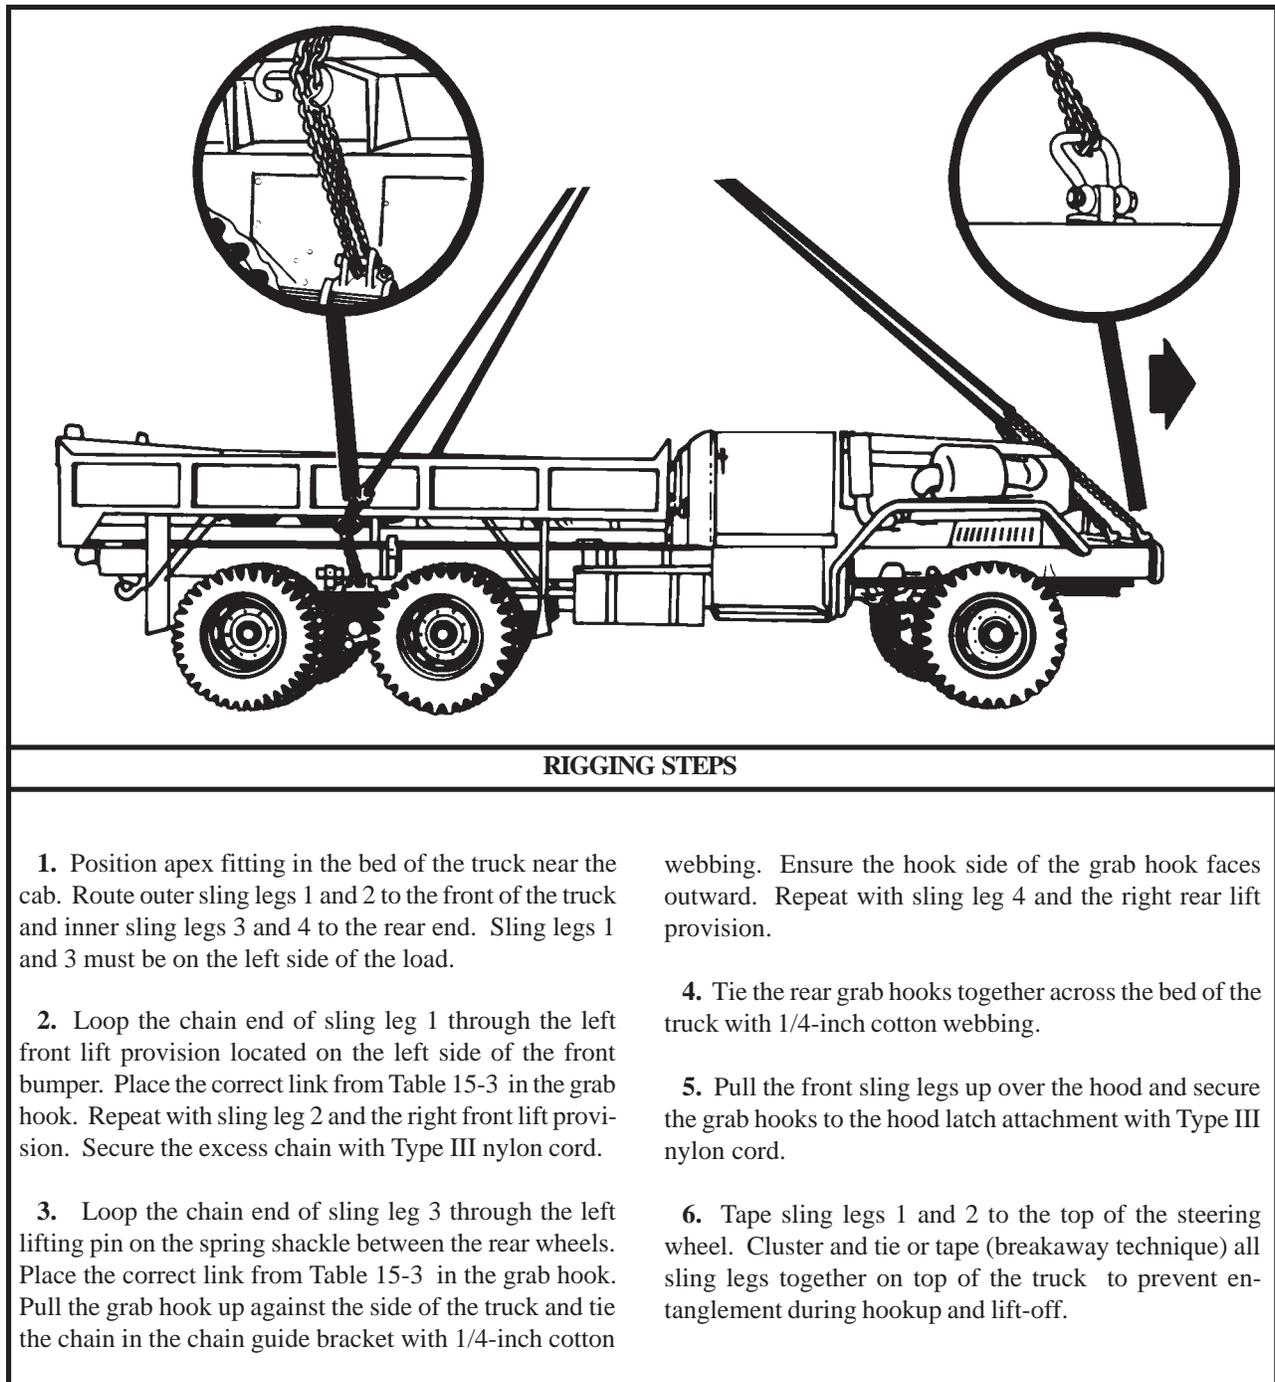

Figure 15-3. M54A2 5-Ton Cargo Truck with Winch
**(2) Rigging.** Rig the load according to the steps in Figure 15-3.
**(3) Hookup.** The hookup team stands in the cargo bed of the truck. The static wand person discharges the static electricity with the static wand. The hookup person places the apex fitting onto the aircraft cargo hook. The hookup team then moves clear of the load but remains close to the load as the helicopter removes slack from the sling legs. When successful hookup is assured, the hookup team quickly exits the area underneath the helicopter to the designated rendezvous point.
(4) **Derigging.** Derigging is the reverse of the preparation and rigging procedures in steps d (1) and d (2).